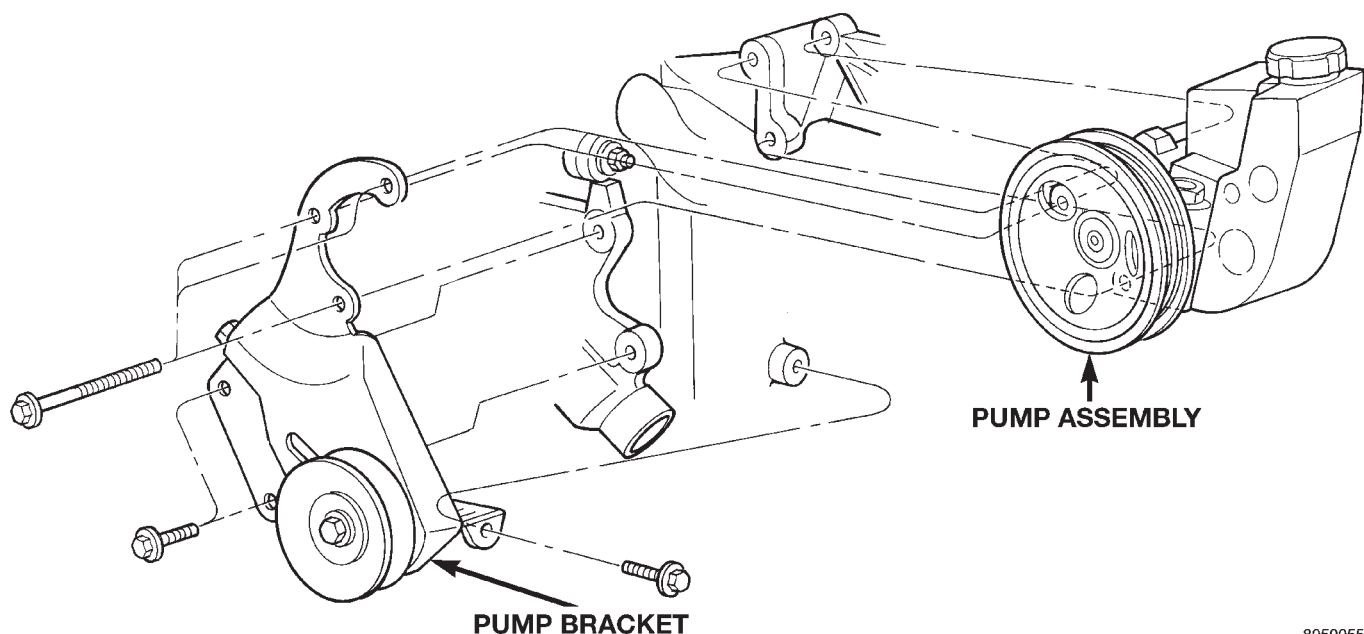

Fig. 3 Pump Mounting – 4.0L
- (1) Remove serpentine drive belt, refer to Group 7 Cooling.
- (2) Vehicles equipped with Speed Proportional Steering, disconnect actuator harness.
- (3) Remove pressure and return hoses from pump and drain pump.
- (4) Remove 3 pump mounting bolts through pulley access holes.
- (5) Loosen the 3 pump bracket bolts (Fig. 3).
- (6) Tilt pump downward and remove from engine.
- (7) Remove pulley from pump.